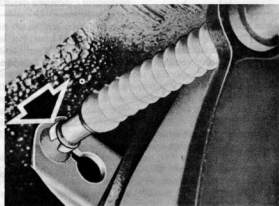

Fig. 5.3. Nylon retaining ring on clutch fork (Sec. 3)
- 3 From beneath the car, remove the nylon collar from the end of the clutch cable and slide the cable ball end out of the clutch fork (Fig. 5.3).